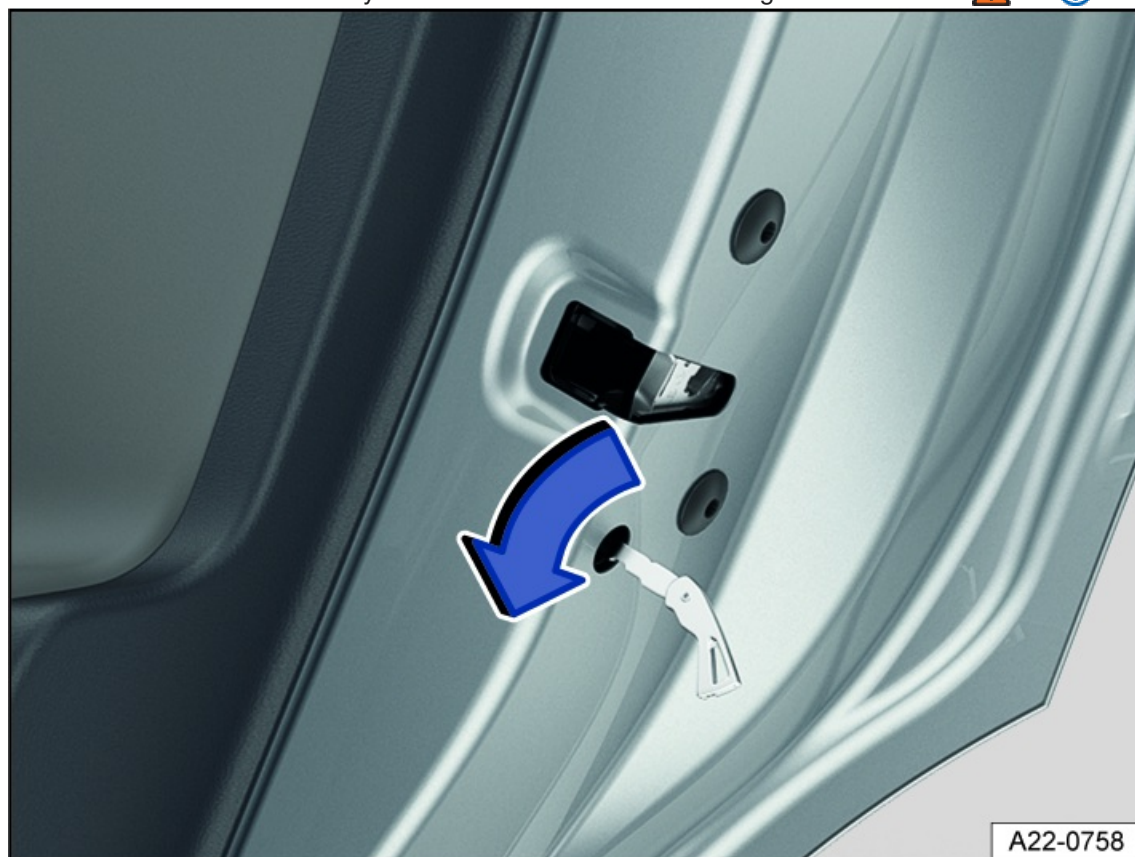

Fig. 45 In the front edge of the rear right-hand door: vehicle emergency lock for using the emergency key (general example).
2. Insert the key bit or emergency key into the slot and turn it or press on it *fig. 45*.